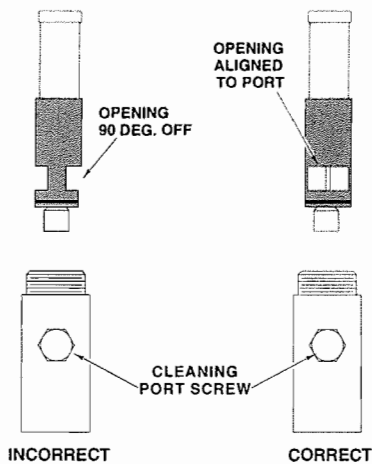

Fig 26
- B. Ensure that the spool of the kettle pressure regulator assembly is positioned **CORRECTLY** (Fig. 26). Window of spool must face cleaning port. If spool is positioned **INCORRECTLY**, the pressure discharge port will be partially blocked causing excessive pressure.
Pressure releases too slowly at the end of a cooking cycle.	Spool in kettle pressure regulator assembly may have been incorrectly positioned after cleaning. See Fig. 26 for proper position.